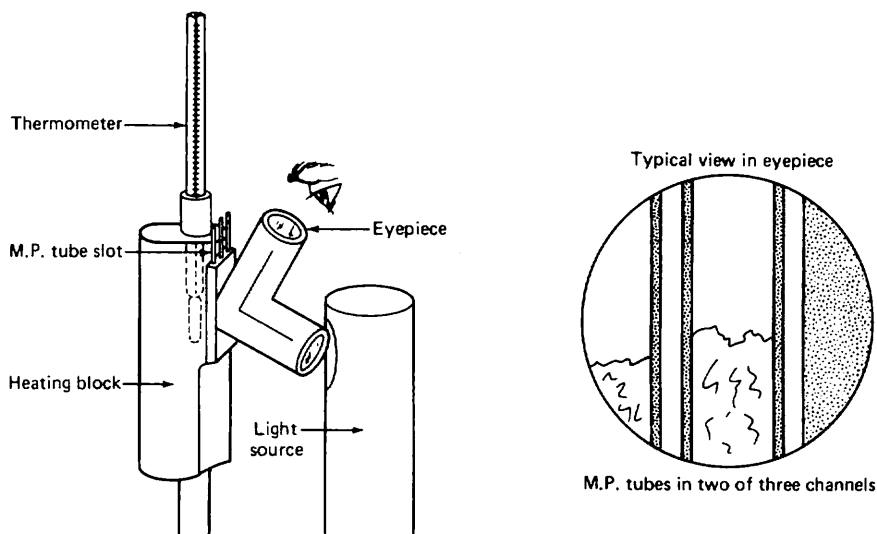

Fig. 49 Close-up of the viewing system.
6. **Eyepiece.** Magnifies the sample (Fig. 49).
2. Place loaded M.P. tube in one of the three channels in the opening at the top of the unit (Fig. 49).